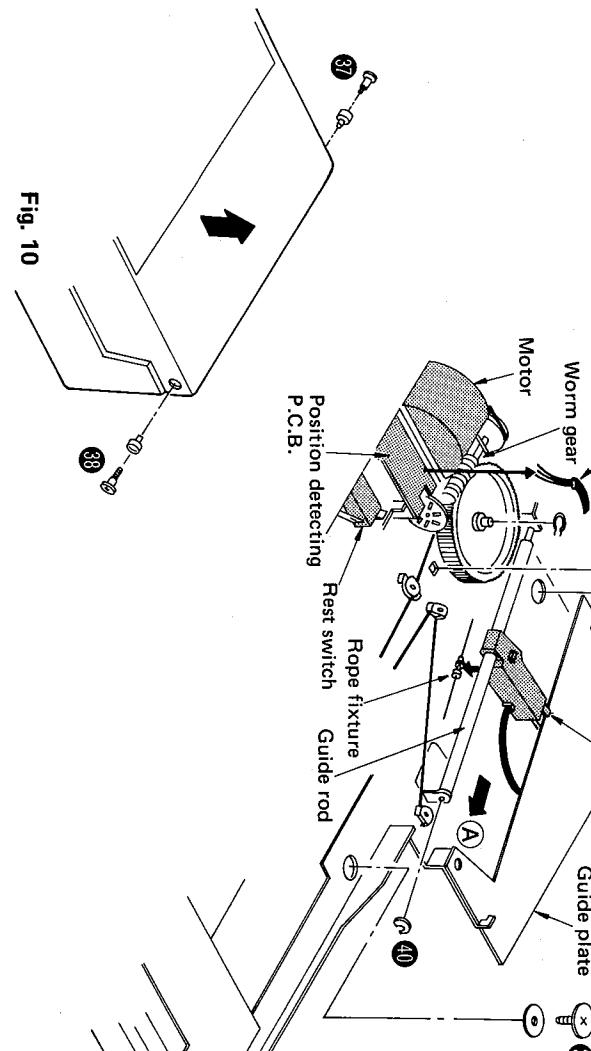

Fig. 9
3. Remove the 3 screws (Fig. 9 : ㉔ ~ ㉖) of the dust cover.
4. Remove the rope fixture of the sensor. (Fig. 9)
5. Remove the guide rod fitting clip ㉗ and remove the guide rod. (Fig. 9)
6. Pull out the sensor in the direction of the arrow (A).
3. Remove the screw of the guide plate. (Fig. 9 : ㉙)